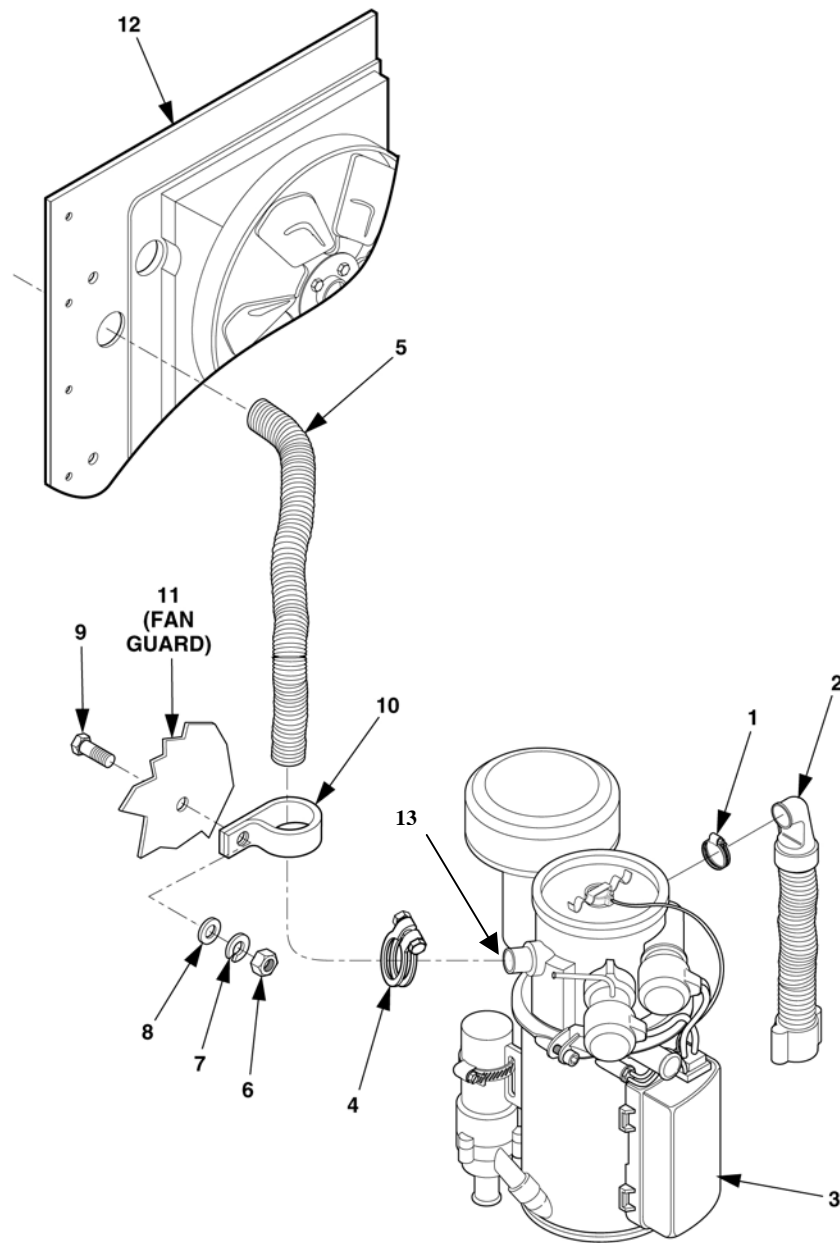

Figure 4-26. Air Inlet and Exhaust Hose Maintenance.
1. Loosen screw clamp (1), Figure 4-26, to remove air inlet hose (2) from heater (3).
2. Loosen screw clamp (4) to remove air exhaust hose (5) from heater exhaust port (13).
3. Remove nut (6), lock washer (7), flat washer (8), and screw (9), and clamp (10) from fan guard (11).
4. Remove sealant from around air exhaust hose (5) at hole through fan shroud (12).
5. Remove thermal sleeving from exhaust hose (5) and retain.